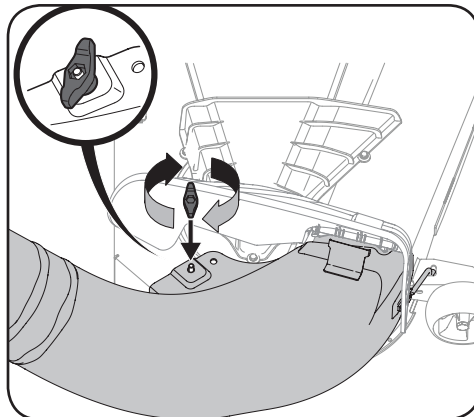

Figure 4-25
- Secure the discharge chute elbow to the cutting deck using a (720-04122) wing knob included with the bagger kit. Refer to Figure 4-25.